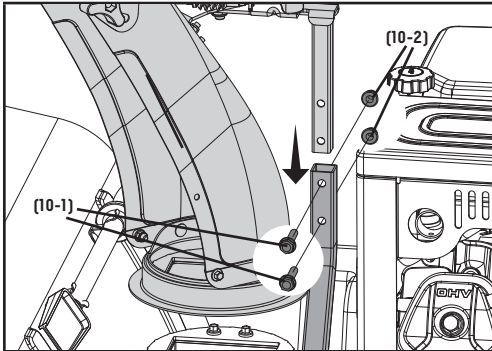

Figure 10
1. Put the snow discharge chute on the snow discharge support. Attach the snow discharge support using bolts (10-1) and nuts (10-2) (Fig. 10). Fully hand tighten.